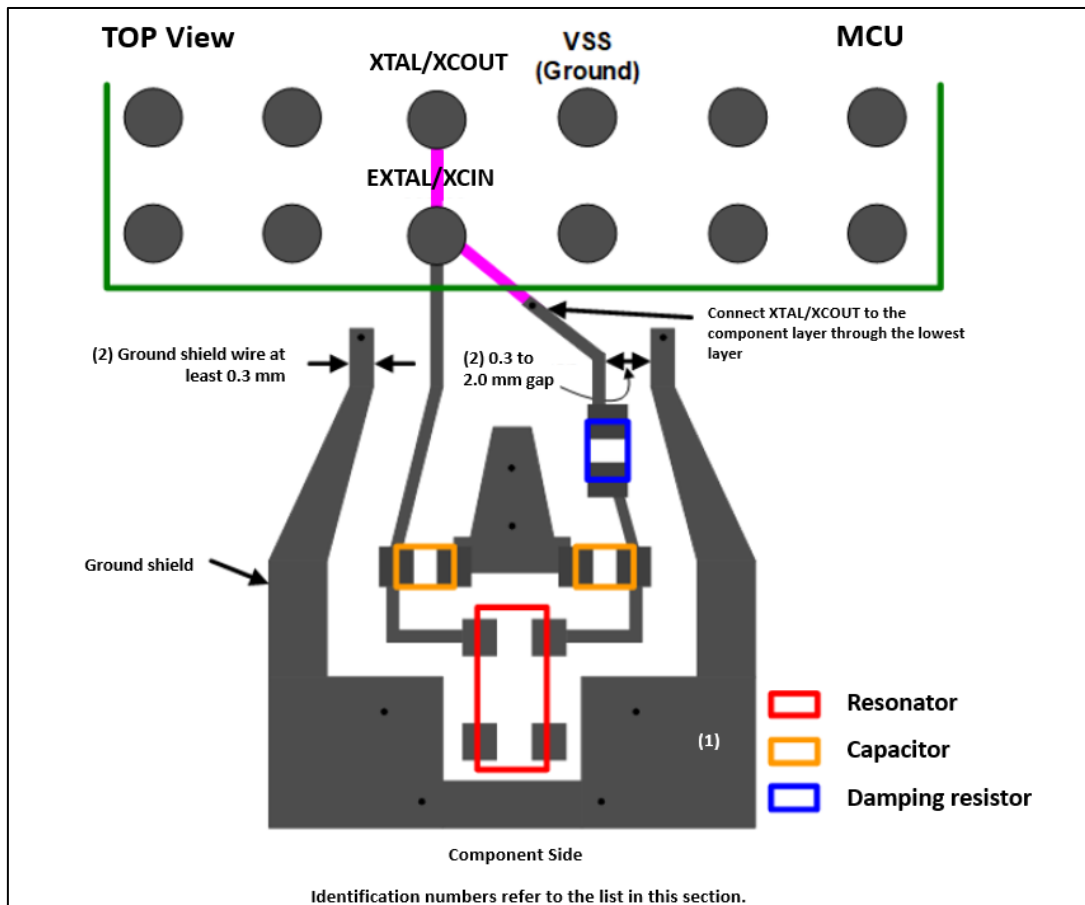

Figure 25. Example of the ground shield tracing: BGA Package
Shield the resonator with a ground trace. (1) through (4) below describe the recommendations for the ground shield. through Figure 25 show trace examples for each package.